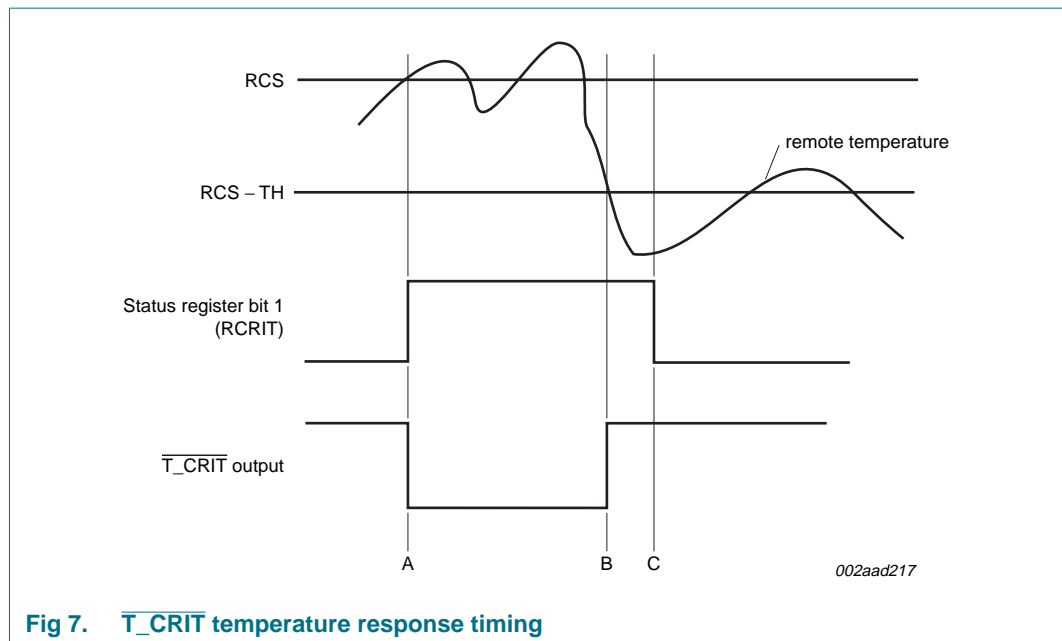

Fig 7. T_CRIT temperature response timing
After every local and remote temperature conversion the status register flags and the T_CRIT output are updated. Figure 7 is a timing diagram showing the relationship of T_CRIT output, Status bit 1 (RCRIT) and the remote critical temperature setpoint (RCS), and critical temperature hysteresis (TH) with remote temperature changes. Note that the T_CRIT output is de-activated only after the remote temperature is below the remote temperature setpoint, RCS minus the hysteresis, TH. In the interrupt mode only, the Status register flags are reset after the Status register is read.